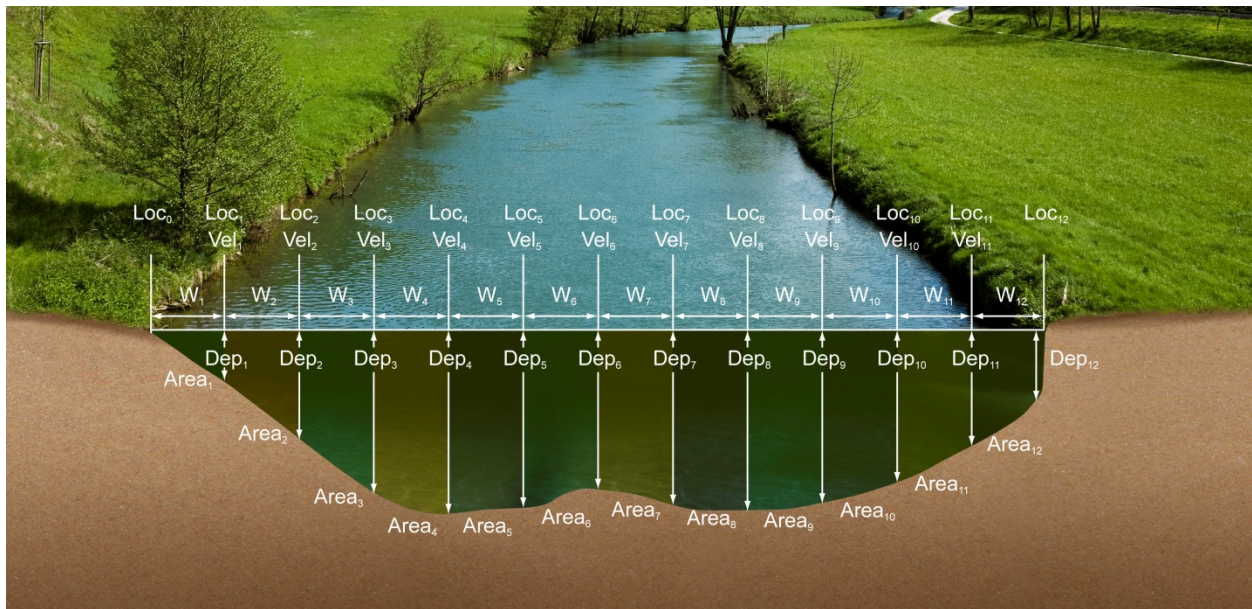

Figure 5:3 - Mean-Section Method
The application of the Mean-Section equation within a measurement section is graphically shown in Figure 5:3 - Mean-Section Method. The principle of the Mean-Section method is shown in the figure below where panel width (W) is calculated based on the station locations between adjacent stations across the section.